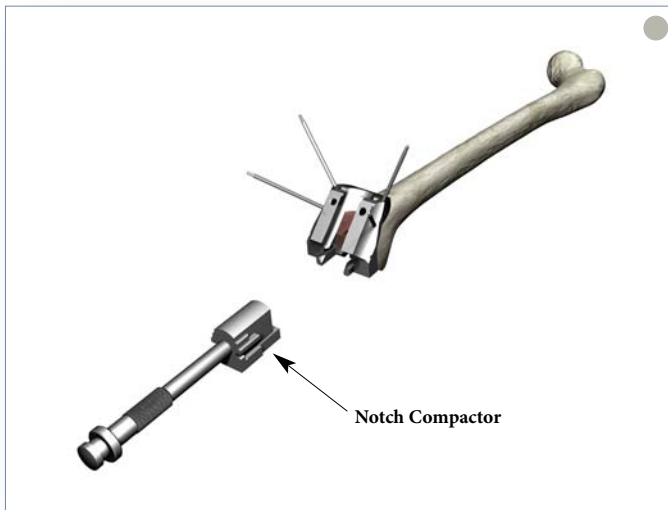

Figure 30
- ▶ Assemble the appropriately sized Notch Compactor to the punch handle (Figure 30).